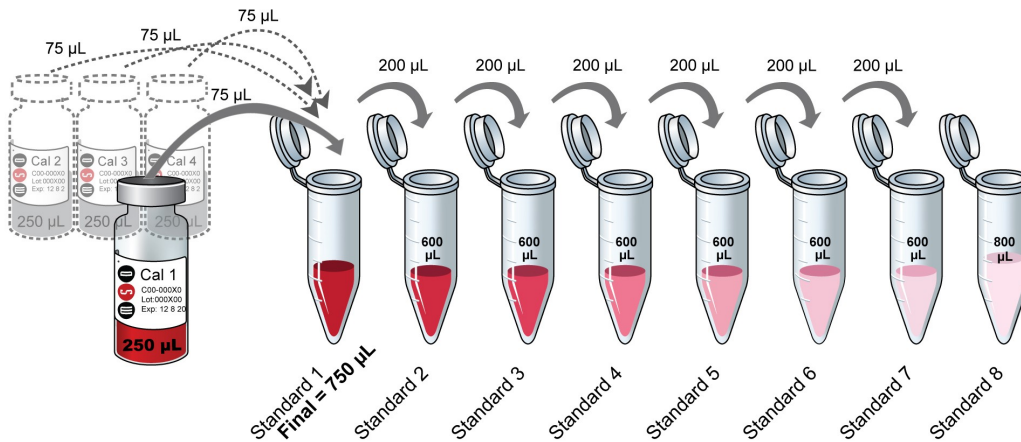

Figure 3. Dilution schema for preparation of Calibrator Standards for 5 U-PLEX assay plates.
- For 5 plates, see Table 11 and Figure 3.